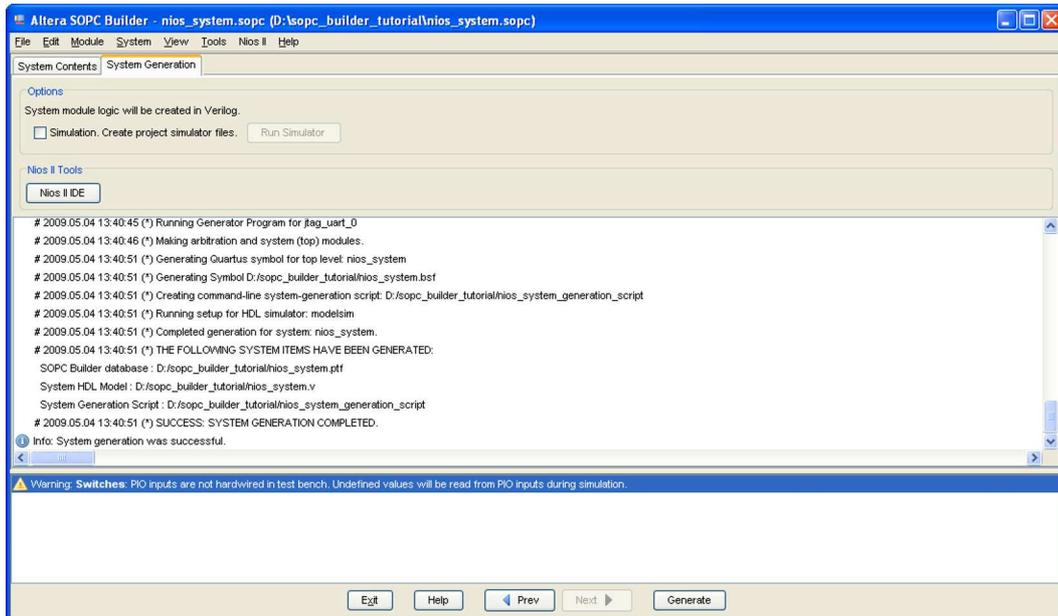

Figure 16. Generation of the system.
13. Having specified all components needed to implement the desired system, it can now be generated. Select the System Generation tab, which leads to the window in Figure 16. Turn off Simulation - Create simulator project files, because in this tutorial we will not deal with the simulation of hardware. Click Generate on the bottom of the SOPC Builder window. The generation process produces the messages